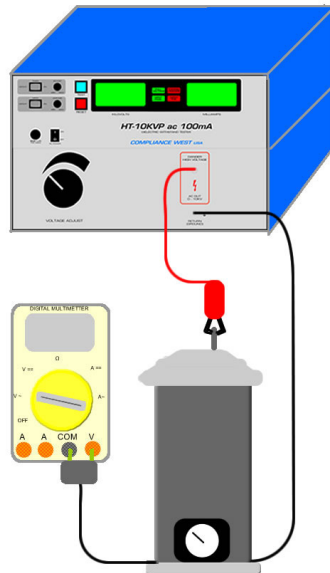

Figure 4-1. Voltage Measurement with 1000:1 High Voltage Probe
3. Set up a 1000:1 probe with an external volt meter as is shown on Figure 4-1.
2. Set up a 1000:1 probe with the volt meter as is shown on Figure 4-1.